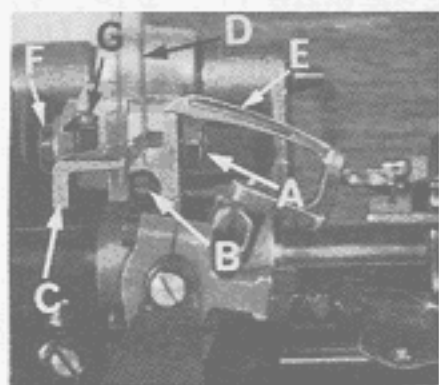

Fig. 9
If feed dog teeth are not parallel with the throat plate, loosen nut (A, Fig. 9) and turn screw (B) clockwise to lower the front teeth, and counterclockwise to raise the front teeth. Retighten nut when feed dog is set properly.
Set the rear needle guard (C, Fig. 9) horizontally so that it does not quite contact the rear of the right needle (D) when at its most forward point of travel. A clearance of .005 inch is permissible. It should be set as low as possible, yet have its vertical face approach within about 3/64 inch of the needle, until the point of the looper (E), moving to the left, is even with the needle. To move needle guard forward or backward, merely loosen screw (F), move needle guard as required, and retighten screw. To raise or lower needle guard, loosen screw (F), and turn screw (G) clockwise to lower needle guard and counterclockwise to raise it. Retighten screw (F) after guard is properly set.